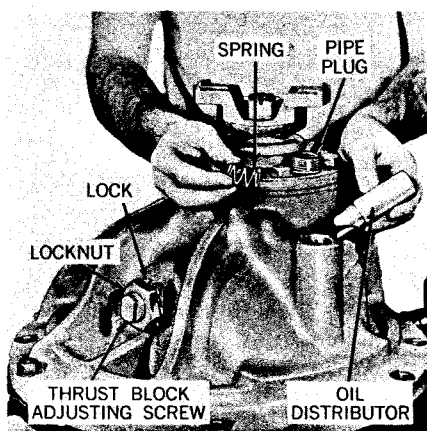

Fig. 3
5. Install oil distributor (if used), spring and pipe plug (see fig. 3).
6. Adjust thrust block clearance as follows: Tighten adjusting screw (see fig. 3) to position thrust block against ring gear. Loosen adjusting screw (approximately $\frac{1}{8}$ to $\frac{1}{4}$ turn) to obtain approximately 0.010 to 0.015 in. clearance between thrust block and ring gear. Place strip sealer between carrier and lock. Tighten locknut then bend ear of lock against locknut to secure adjustment.